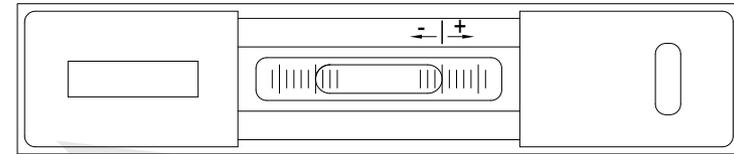
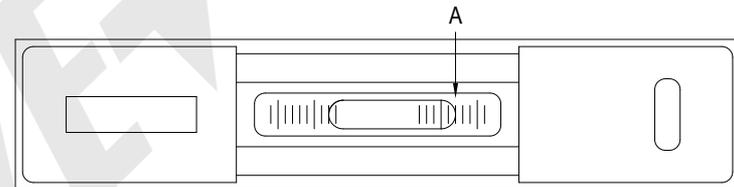
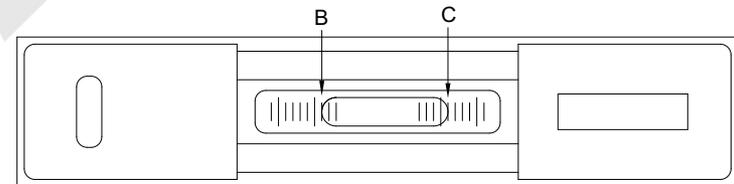

Fig.2
Fig.3
Fig.4
3. In order to get accurate result, suggest to turn level 180° to measure. Right side is positive scale, left side is negative scale (fig.2). After the bubble stops oscillating (about 40s), read A on the scale (Fig.3). Turn level 180°, slide it at the same position of the surface. Read B on the scale (fig. 4). The final reading is (A+B)/2.
Appended: In case of zero deviation (A-C, Fig.3 and Fig. 4) is more than 1 DIV. after hit or other external force, please return to INSIZE to adjust.